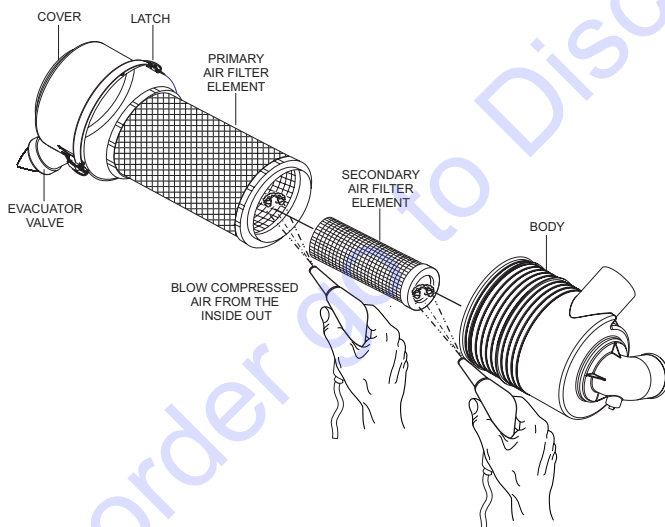

Figure 58. Engine Air Cleaner
This Kubota diesel engine is equipped with a replaceable, high-density, paper air cleaner element (Figure 58). The air cleaner is also equipped with an inner (secondary) element that is used as a backup filter should the primary element become damaged. Check the air cleaner daily or before starting the engine. Replace the air cleaner as needed.
1. Release the latches that secure the cover to the air cleaner body (Figure 58).
2. Remove the **air cleaner cover** (Figure 58) and set it aside.
3. Remove both the primary and secondary air cleaner elements (Figure 58).
5. To clean the **primary element** (paper air filter) as shown in Figure 58, tap the filter element several times on a hard surface to remove dirt, or blow compressed air, not to exceed 30 psi (207 kPa, 2.1 kgf/cm²), through the filter element from the inside out.
8. Clean the inside of the **air cleaner body** (Figure 58).